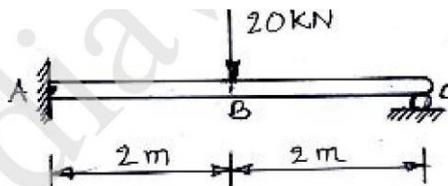

Fig. 4
7. A beam with fixed end and roller support is subjected to a point force of 20 kN as shown in **Fig. 4**. Determine (i) Transverse forces and bending moments, and (ii) Deflections and slopes at points A, B and C. Take $E = 200 \text{ GPa}$ and $I = 8 \times 10^{-5} \text{ m}^4$. 14M